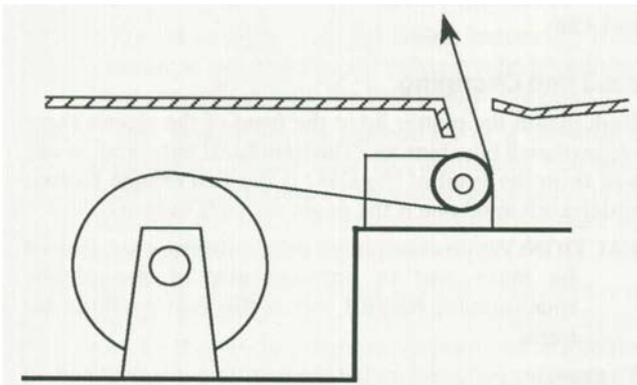

Figure 2.5.5. Paper Loading
5. Feed the paper from the top of the roll as shown in figure 2.5.5 below and push it through the slot in the rear of the printer mechanism.